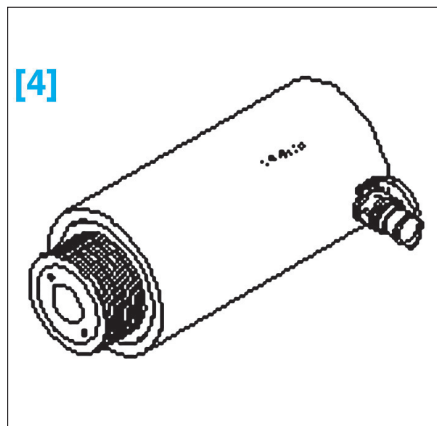

FIG. 58
- [4]. Vérin hydraulique Ref. VAS 6178 (Fig.58).